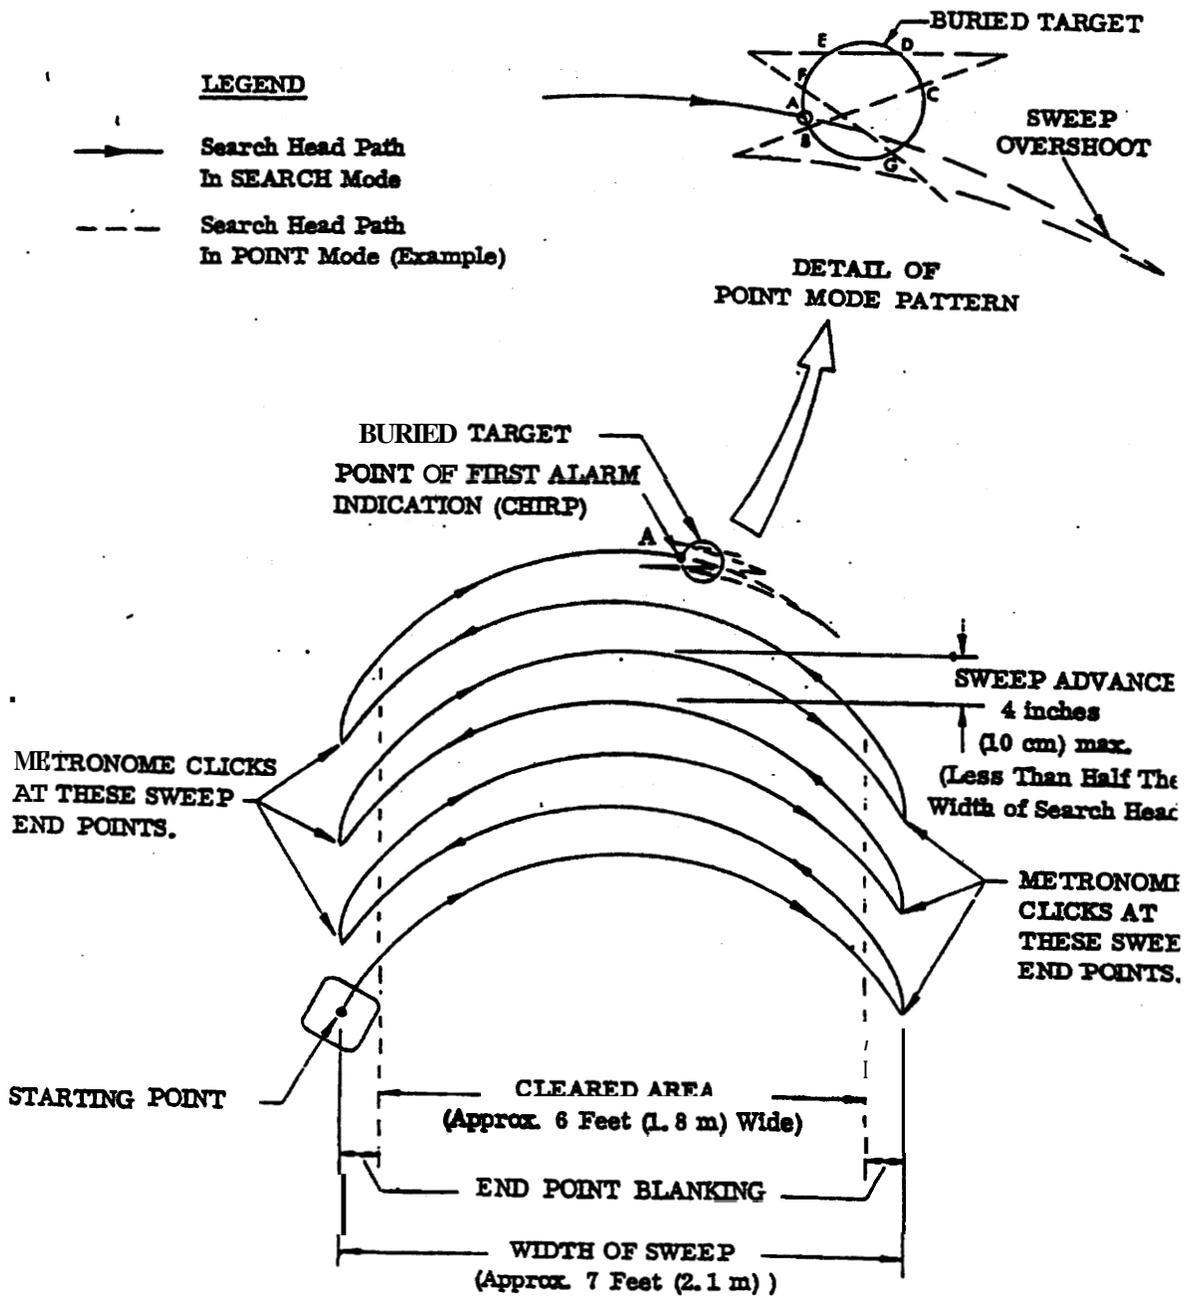

Figure 3-1. Sweep Pattern for SEARCH and POINT Modes
b. A click should be heard in the headset at intervals of 2.5 seconds, indicating the system is operating in the SEARCH mode. These clicks also function as a metronome and will make it easy to sweep the search head at the optimum sweep rate by synchronizing sweep direction reversals with the clicks. (See figure 3-1.)
c. While keeping the search head approximately 3 inches (7.5cm) above the ground, depending upon the surface condition of the terrain, sweep the search head from side to side at a sweep rate such as to make each change of sweep direction (sweep end points) coincide with a metronome click. (Sweep rate is approximately 7 feet (2.1m) in 2.5 seconds). With each sweep, advance a distance of no more than 4 inches (10 cm) or about half the width of the search head. (See figure 3-1.) Ensure that the search head is parallel to the ground at all times as tilting the search head will produce a signal similar to a mine signal. Operation in the prone position is the same, except the sweep rate is approximately 3.5 to 4 feet (1 to 1.2m) in 2.5 seconds.
d. A sudden short-duration increase of the click rate (chirp) followed by a lower click rate (anywhere between 3 and 150 clicks per second) indicates an initial alarm and simultaneous automatic switchover to the POINT mode, when the search head is swept over an anomaly in the soil, such as at point A in figure 3-1.
a. After a chirp has signaled the presence of a possible mine with the switchover to POINT mode, the click rate drops to a lower rate (anywhere between 3 and 50 clicks per second). Quickly return the search head to the approximate location where the alarm first occurred and sweep the search head from side to side over the area in short slow sweeps of 1.5 to 2 feet (0.5 to 0.6m) in length. An increase in click rate will be heard from the headset as the side of the search head passes over the edge of the buried object. (The click rate response sounds similar to a Geiger Counter.) The click rate will decrease when the search head is centered over the object and will increase again as the other side of the search head passes over the other edge of the buried object. By moving the search head slightly forward or backward from sweep to sweep, the outline of a large buried object can be exactly determined. (For example: In figure 3-1, higher click rates are obtained at points B through G.) As long as an alarm indication, signified by a higher click rate, is periodically encountered, automatic reset to the SEARCH mode will not occur. However, when leaving the area of the buried object, the click rate drops to about ??? clicks per second and then stops after 3.5 seconds. Automatic reset to the SEARCH mode occurs when the POINT mode clicks stop. If operations are continued, start sweeping immediately after automatic reset to SEARCH mode occurs and synchronize sweeps again with the metronome clicks (one click every 2.5 seconds).